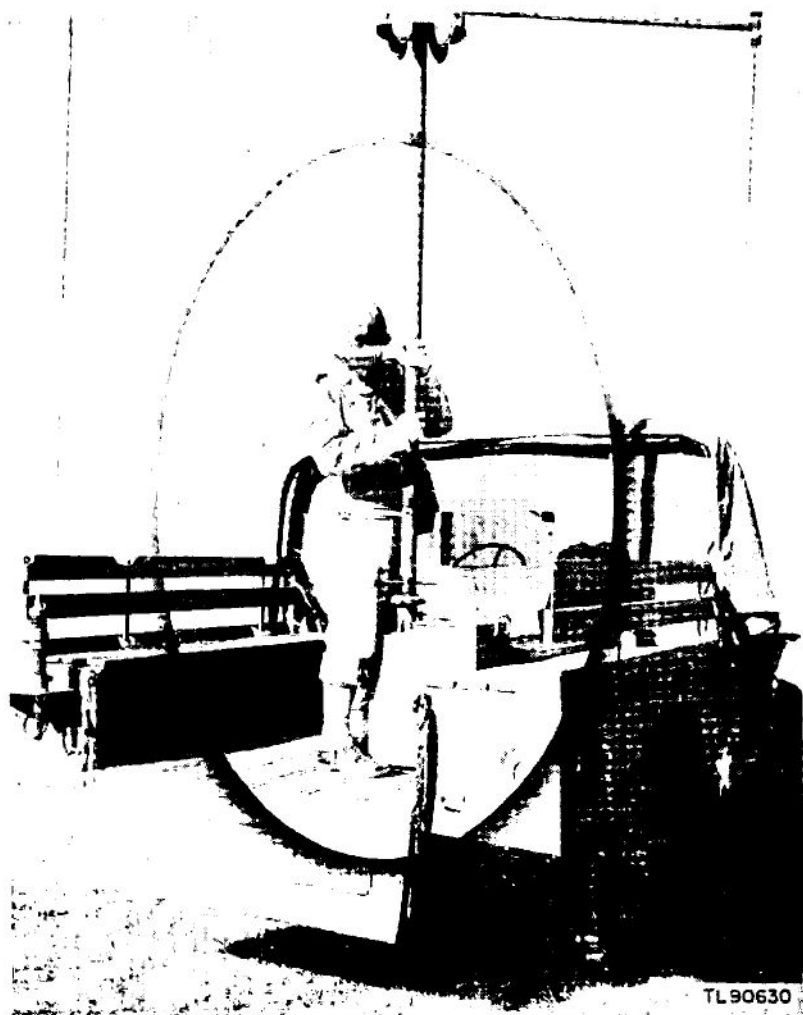

Figure 27. Placing assembled antenna array on catenary mount.
d. Lift the antenna array bodily and place it over the stub projecting from the top of the antenna mount (fig. 27). Slip the socket on the bottom of the mast down over the stub, and turn the mast until it aligns with the keys on the side of the stub. Push the mast down to seat it firmly on the stub.